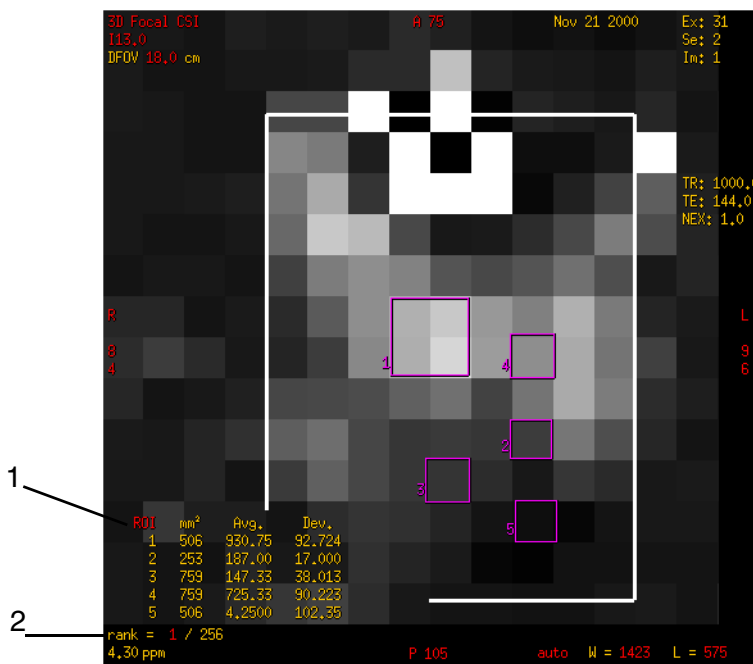

Figure 5: The chemical shift viewport, rank=1 display with five ROIs.
Individual chemical shift images, are displayed as non-zipped images, and are displayed in gray scale in this viewport. No smoothing is the default mode for displaying images in this viewport. The individual rank images can be used to characterize the homogeneity through the prescribed PRESS voxel, and the spatial variation of the water suppression. The rank is the number assigned to the image when the images are sorted by increasing time. Large variations in both will appear as dark and light regions as in (Figure 5). Each rank image corresponds to the spatial distribution of one of 256 equally spaced frequencies between 4.3 and 0.49 PPM.
General information for each ROI is printed in this window. In the example (Figure 5), a column of ROI numbers (1) labeled “ROI”, a column labeled “mm²” which lists the area in millimeters for each ROI, and a column labeled “Avg.” are displayed in the bottom left corner of the viewport. The average of the signals from the pixels in each ROI is listed in the “Avg.” column. Depending on the selected metabolite a “Dev.” column may appear showing the standard deviation. The ROI